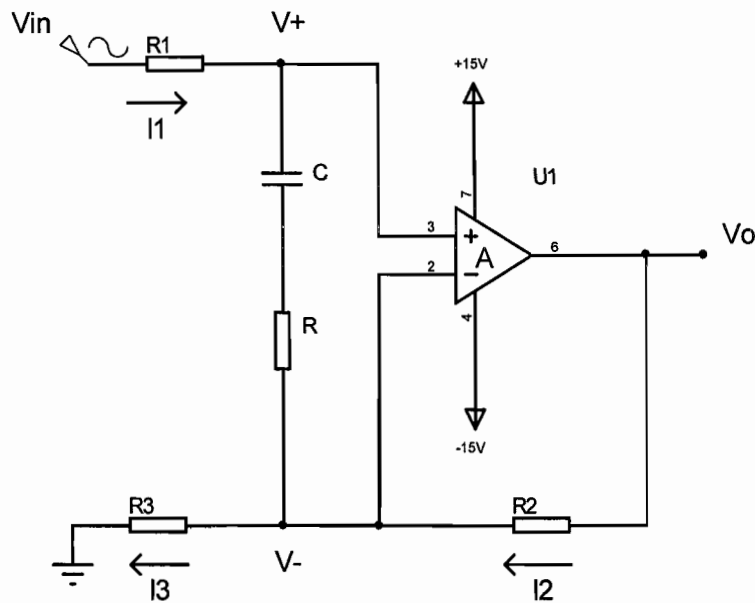

Fig 3.2
d) In Fig 3.2 relevant voltage points and currents are marked.